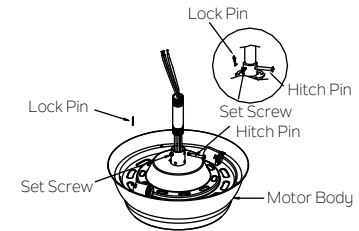

Fig. 7
Step 3. Loosen the two set screws and remove the lock pin and hitch pin from the top coupling of the motor body. Carefully feed the fan wires up through the downrod. Thread the downrod onto the motor coupling until the hitch pin holes are aligned. Next, replace the lock pin and hitch pin, and tighten both set screws. (Fig. 7)